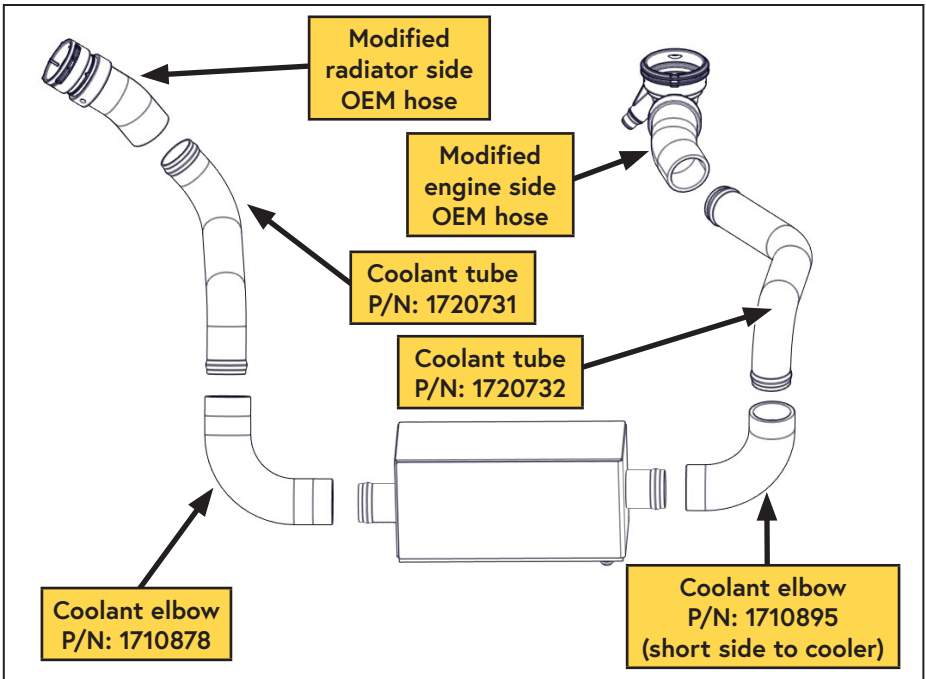

Figure 34 — VMAC cooler assembly
Refer to Figure 34 on page 25 for an illustration of the modified coolant system.
- Connect the modified OEM hoses as indicated (Figure 34).